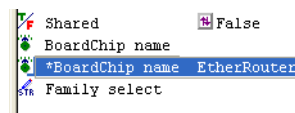

Figure 5-7 Assigning the EtherRouter BCD group
3. Select **EtherRouter** from the context menu. A new setting is displayed in the right pane with an asterisk * beside it, shown in Figure 5-7.